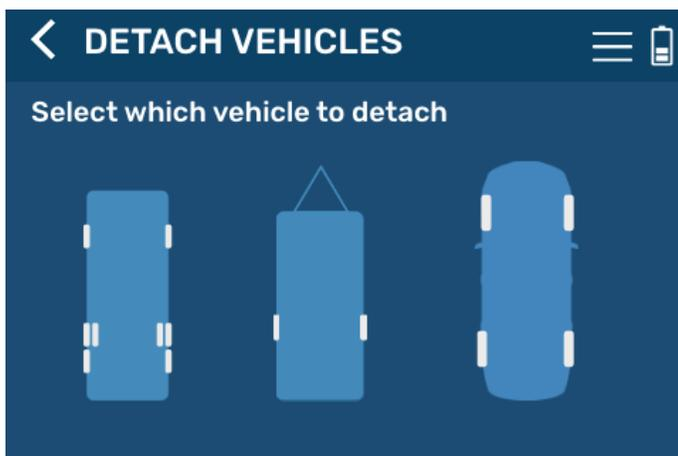

Fig.25
2. Select which vehicle to detach (Fig.25).